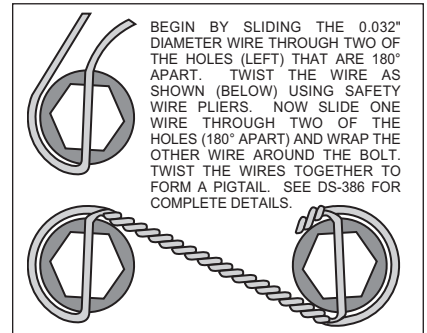

Figure 5. Safety Wire Diagram
- Align the correct hole pattern in the rotor (3) with the stud pattern on the axle flange. **NOTE:** Some OEM and after market axles come with stud sizes larger than 0.50" diameter. Verify stud size and have a qualified machine shop drill the hat section of the rotor to the correct size, if necessary. Slide the rotor (3) over the wheel studs covering the mounting bracket assembly (1) and against the axle flange face.
- NOTE:** Please reference the caution statement at the beginning of the assembly instructions. WITH THE BLEED SCREWS POINTING UP, mount the caliper (4) over the rotor (3) and onto the caliper mounting bracket (1) using lock washers (5) and mounting bolts (6). View the rotor through the top opening of the caliper. The rotor should be aligned in the center of the caliper. If not, adjust the caliper by using 0.032 inch shims (7) by placing them between the caliper mounting bracket (1) and the caliper (4). Apply red *Loctite*® 271 to the mounting bolt threads (6), torque to 30 ft-lb. Safety wire the caliper mounting bolts (6) using standard 0.032 inch diameter stainless steel safety wire as shown in Figure 5. Please refer to Wilwood's data sheet DS-386 (available at www.wilwood.com/pdf/ds386.pdf) for complete safety wire installation instructions.